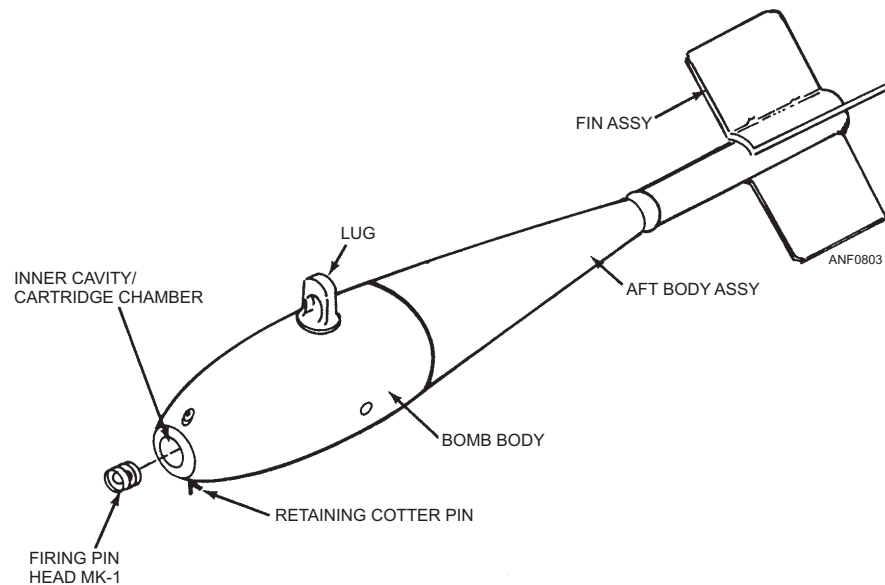

Figure 8-3.—Mk 76 Mod 5 practice bomb.
**MK 76 MOD 5.**—The 25-pound, solid metal-cast, Mk 76 Mod 5 practice bomb (fig. 8-3) has a teardrop-shaped body. It is centrally bored to permit the insertion of a practice bomb signal cartridge. The after body, covering the tail tube, is crimped to the bomb body and has welded-on conical tail fins. The bomb has single-lug suspension and is painted blue with identification nomenclature stenciled in white letters on the body. The Mk 76 Mod 5 subcaliber practice bomb is specifically designed to simulate unretarded weapon delivery.